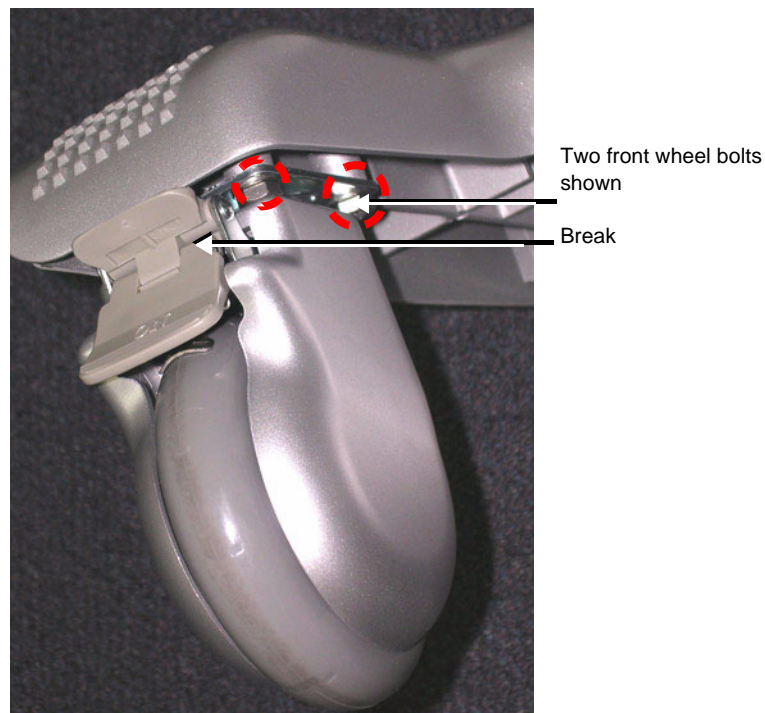

Figure 8-106 Front Wheel Bolted to SafeLock Cart Chassis
- 5) Loosen and remove the four bolts that secure the front wheel to the SafeLock Cart chassis (see Figure 8-106).